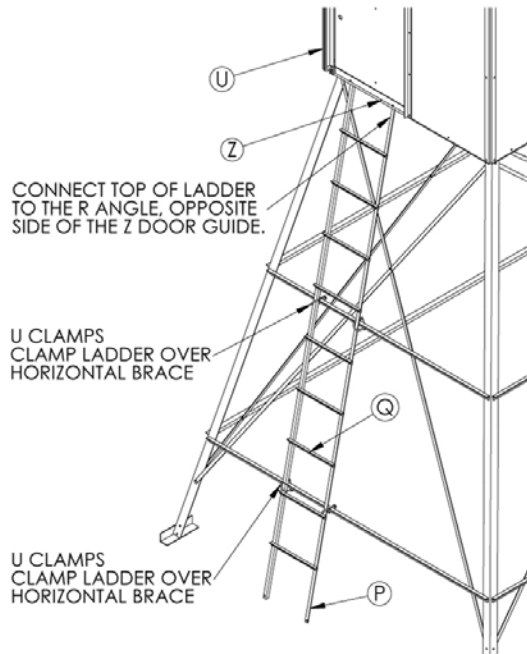

Figure 4
1. Remove the (K) clips from this package and assemble the blind, being sure to install these clips according to the blind instructions.
3. Attach the (U) handle to the (S) corner post nearest the door opening. Remove the first and second bolts from the bottom of the (S) corner post. Position the (U) handle and attach by reinstalling the bolts. (Fig. 4)
7. Assemble & install the ladder using bolts and U-bolts as pictured. Attach top two holes in ladder runners using existing bolts used to attach the "Z" plate, underneath the blind (opposite the "Z" and behind the angle iron supporting the floor). (Fig. 4)